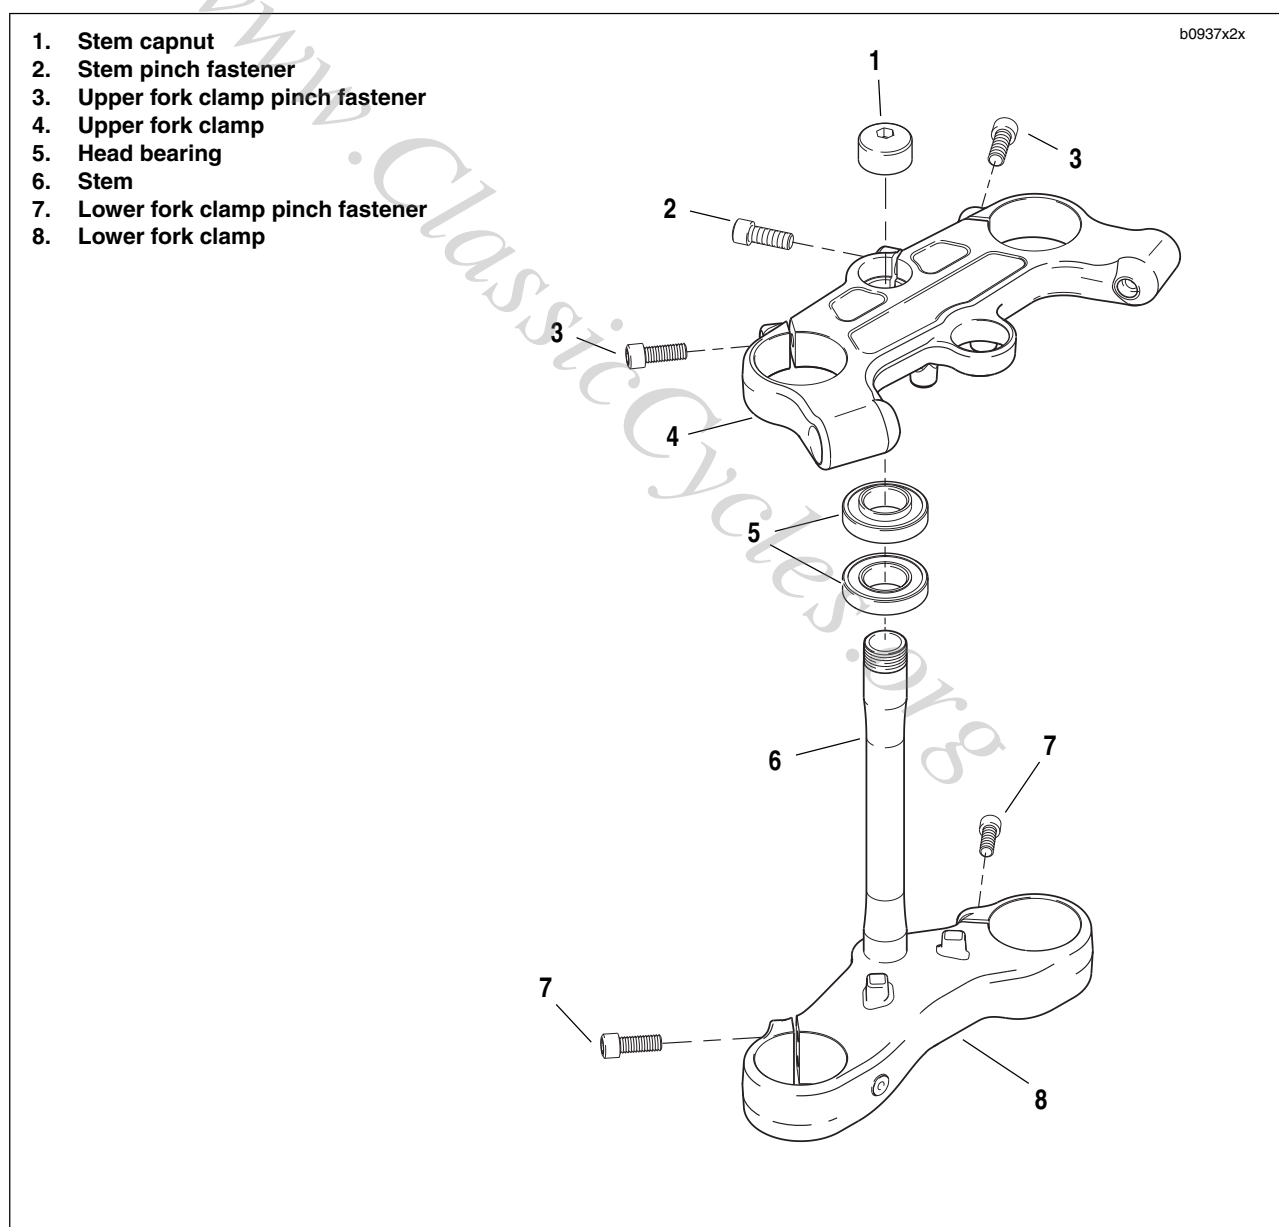

Figure 2-75. Steering Stem Assembly
5. See Figure 2-75. Remove steering stem pinch fastener (2).
8. See Figure 2-75. Hold or brace the lower fork clamp and remove steering stem cap (1).
9. Remove the upper fork clamp (4).
10. Remove the lower fork clamp (8).
1. See Figure 2-75. Install the lower fork clamp (8) into the steering stem bore and install the upper fork clamp (4).
2. Install steering stem cap (1). Thread on by hand but do not torque.
- a. See Figure 2-75. Loosen steering stem pinch fastener (2) and upper and lower fork clamp pinch fasteners (3, 7).
- b. Brace wheel while removing steering stem capnut fastener (1).
- c. Remove upper fork clamp (4) and front-end assembly which includes front wheel, steering stem/lower fork clamp.
5. Remove upper and lower steering head bearings (5).